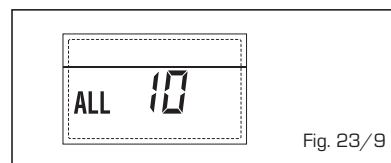

Fig. 23/9
- INTERVENTION SONDE FUMÉES "ALL 13" (fig. 23/10)